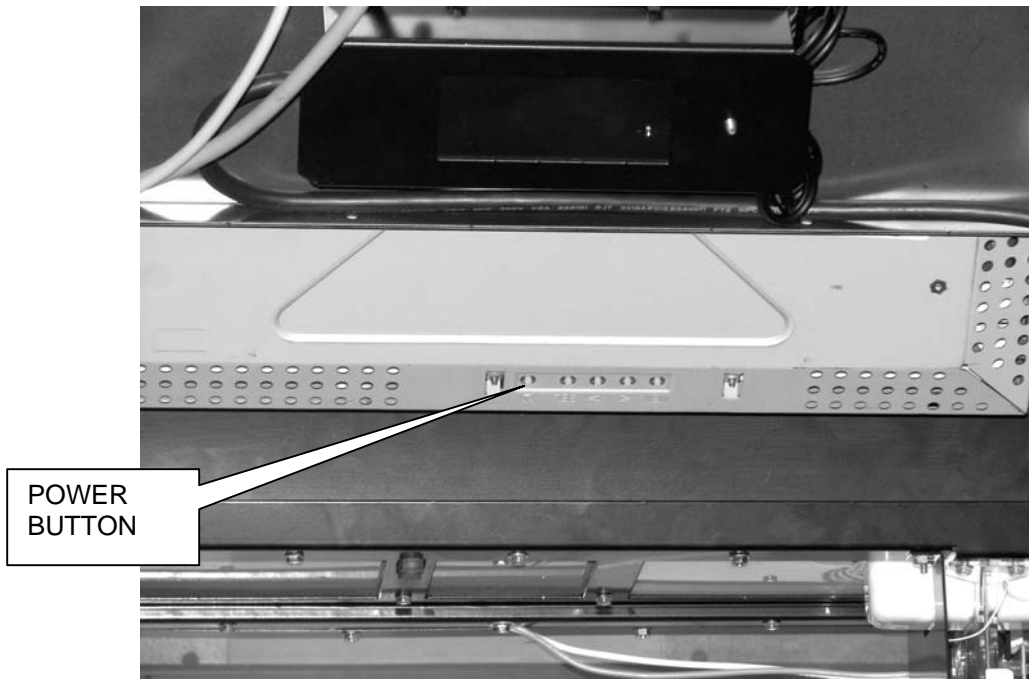

Figure 25 - Power Button on Monitor
1. Plug the power cord into a standard, grounded wall outlet and turn the jukebox ON. The lights should come ON, the Bill Acceptor should cycle, and the power indicators on the Hard Drive Tray and Core Computer should come ON. The Monitor should also come ON. If the monitor does not power up, press the power button on the monitor. Refer to *Figure 25*.